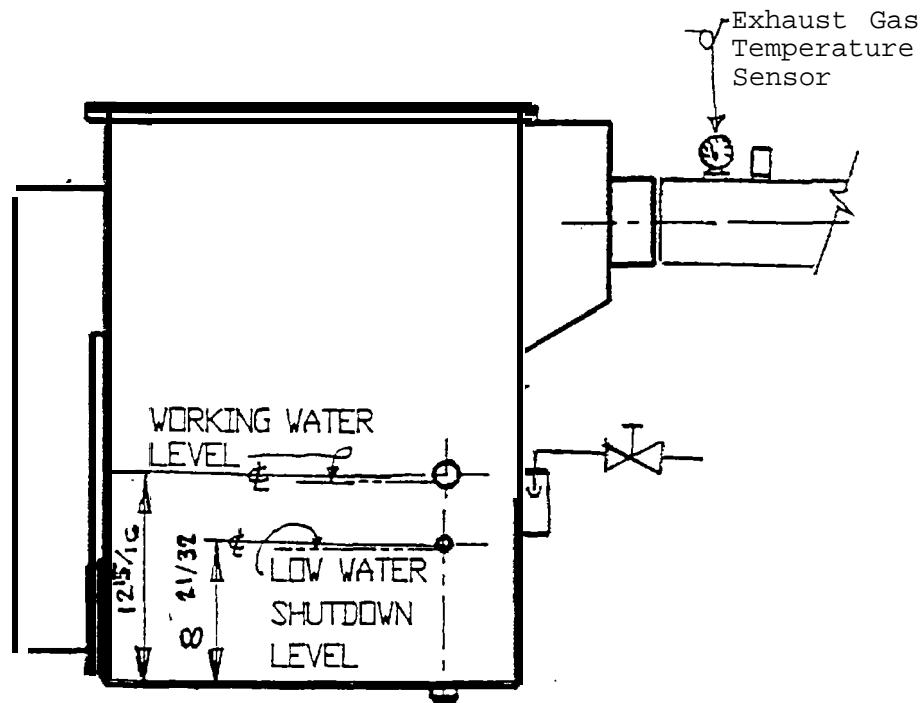

Figure 15. Location of Low Water Test & Fill Ports.
- An exhaust gas temperature sensor is also located in the exhaust gas pipe just downstream of the exhaust conditioner discharge point, as shown in fig.15.